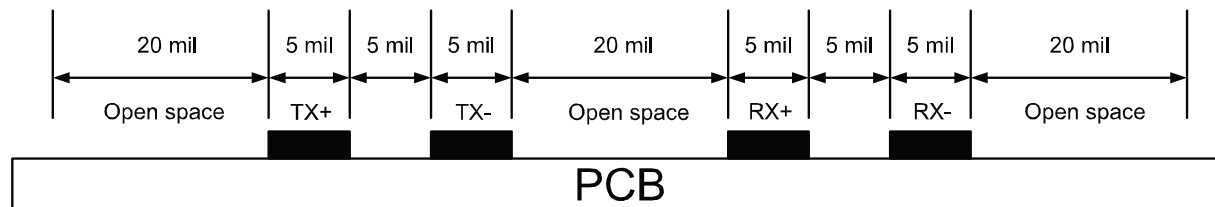

Figure 2. Transmit/Receive Differential Pair Routing
- Route both TX+/- and RX+/- pairs as far as away from each other at least four times of 5-mil trace space as shown in Figure 2.